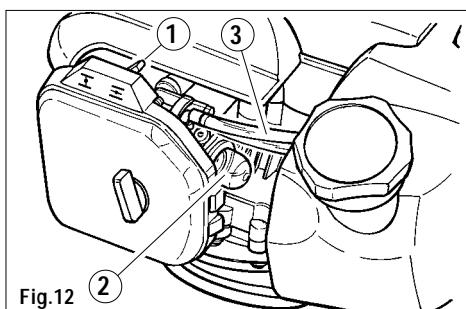

Fig.12
- 3) Lift the choke lever located above the air filter cover (fig.12 part.1) and place it in position .
- 4) Repeatedly press the primer bulb (fig. 12 part. 2) down until the fuel returns to the tank through the second transparent hose (fig.12 part. 3).
- 8) Push the choke lever down  (fig.12 part.1).